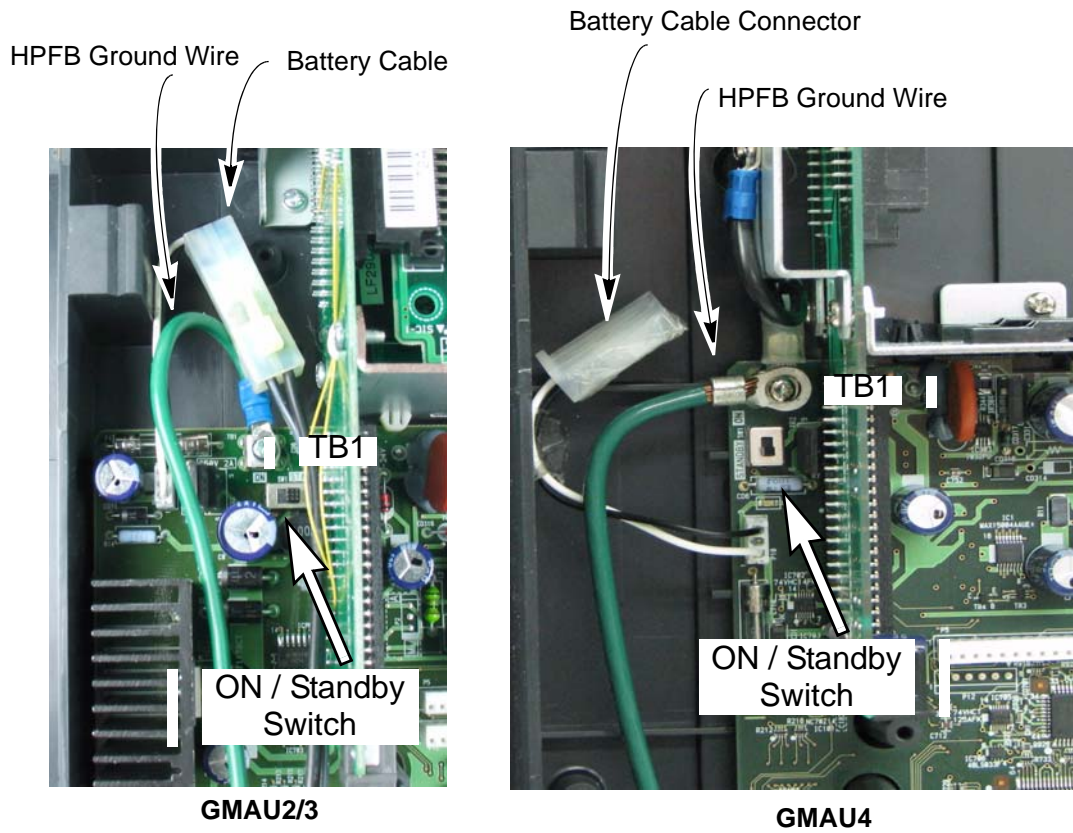

Figure 1-27 HPFB-6 Connection
6. Connect a #10 ground AWG wire from the HPFB-6 "FG" screw to the CIX40 screw labeled "TB1" (Figure 1-27).